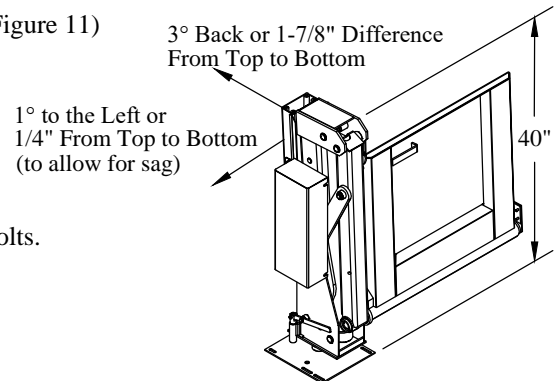
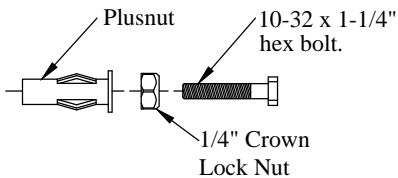

Figure 10: Liftgate properly tipped.
Figure 11: Plusnut Parts.
4. **Position** the liftgate so it is tipped 3 degrees back and 1 degree to the left (Figure 10).
7. **Locate and Drill** eight (8) 5/16" holes into the rear door header, using the top angle bracket as a guide. Choose eight (8) of the angle bracket holes without obstructions.
8. **Assemble** the Plusnut with the 1/4" crown lock nut and 10-32 x 1-1/4" hex bolt (Figure 11)